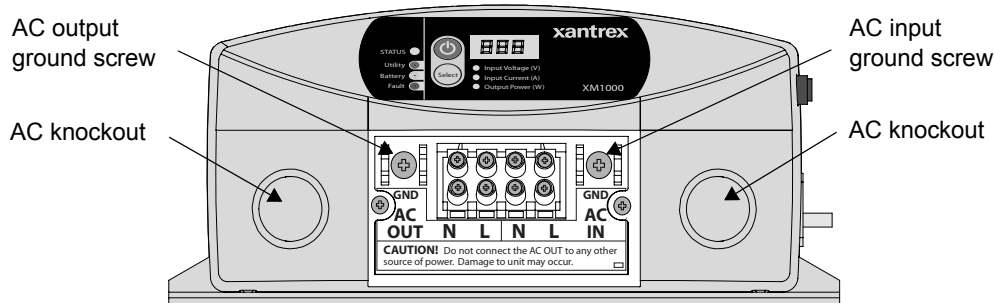

Figure 3-5 XM 1800 AC Wiring Compartment
5. Remove the right-hand side AC wiring knockout from the front of the unit (see Figure 3-5 on page 3–16).
A separate screw is provided to connect the AC input ground (see Figure 3-5 on page 3-16).